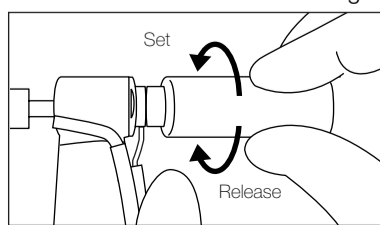

Fig. 8
- ④ Hold the Internal Irrigation Nozzle end with finger and turn the wrench to clockwise direction until click. (approx. 1/8 rotation) (Fig.8)
- ⑤ Take reverse procedure to release the Internal Irrigation Nozzle.